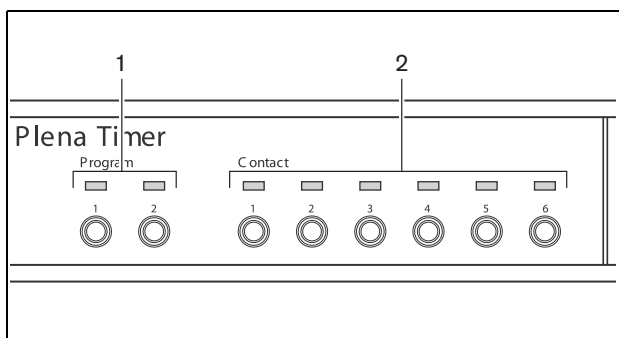

figure 4.2: Front panel LEDs
If mains power (or back-up power) is available, the Program LEDs (1) and Contact LEDs (2) on the front of the Timer will be momentarily lit during initial system power up, and the main display will come on (see figure 4.2).